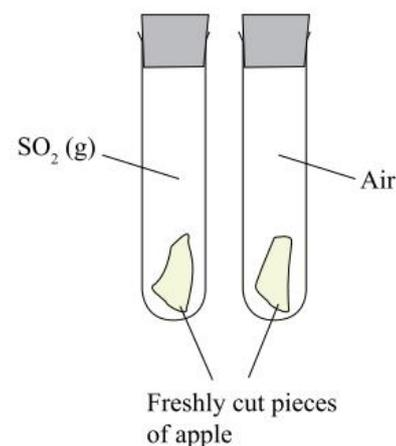

Figure 23.2
9. Freshly cut two identical sections from an apple so that they will fit into a test tube. Place each piece into a different test tube as shown in Figure 23.2. Fill one of the test tubes with SO₂ gas. Label each test tube, stopper lightly and leave overnight.